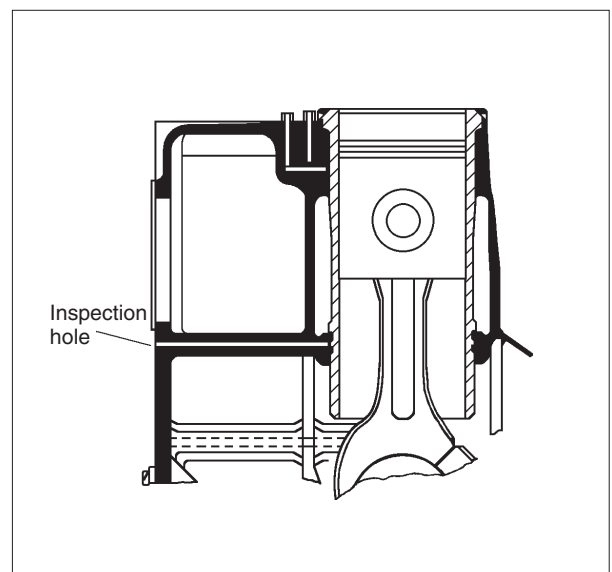

Fig. 3.
13) When preparing the start-up, check for possible leakages of water and oil, including the inspection hole in the frame, see fig. 3.